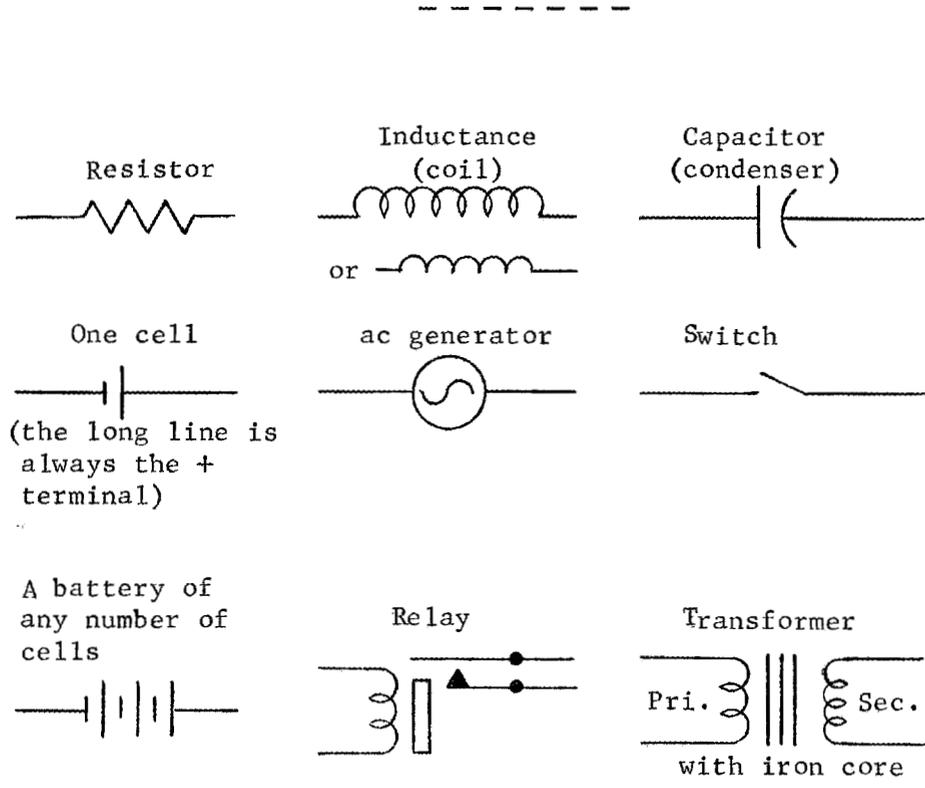

Fig. V-4. Common Electrical Symbols
75. Figure V-4 shows a number of common symbols used in resistance drawing electrical circuit diagrams. In the following frames, these symbols will be used in drawings to represent the components of circuits discussed.